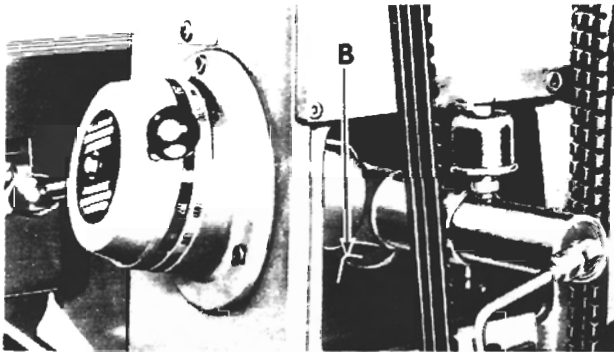

Figure 9
3. Turn variable dial to lowest range and lock in place with pin (B, fig. 9).
1. Replace the two "O" rings on shaft (B).
2. Press new hydraulic cylinder (E) with bearing into variable pulley hub (F), then slide the assembly onto shaft (B) and pulley hub.
3. Install sleeve on shaft (B).
4. Start nut (C) on shaft (B).
5. Hold the shaft in place with a socket set screw wrench and then turn nut onto rod until distance from the end shaft (B) to nut (C) is the same as step 4.
6. Start fitting (A) onto hydraulic cylinder (E).
8. Keeping oil reservoir filled, hold variable dial against low speed stop until oil runs out around fitting (A) -- it takes a few minutes for oil to run down.
9. Tighten fitting (A).
10. Remove lock pin (B, fig. 9).